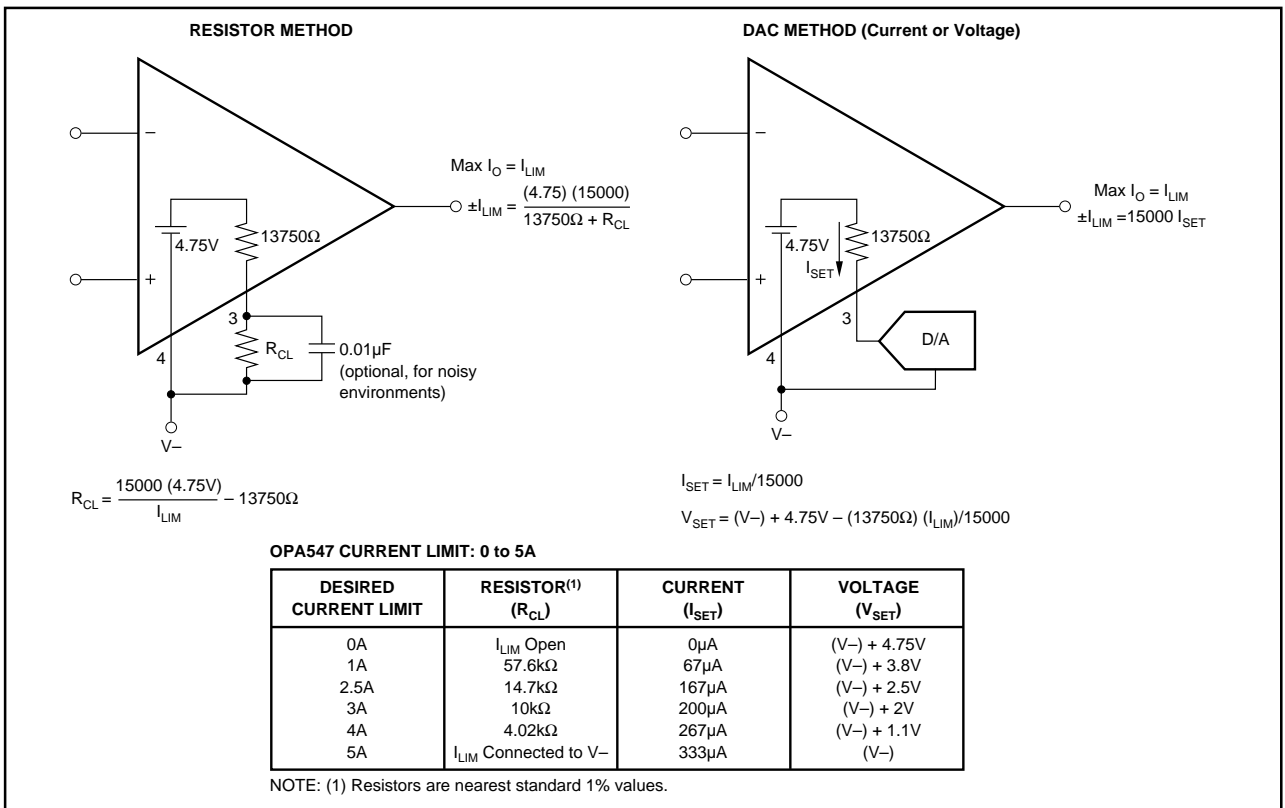

FIGURE 3. Adjustable Current Limit.
Figure 3 shows a simplified schematic of the internal circuitry used to set the current limit. Leaving the ILIM pin open programs the output current to zero, while connecting ILIM directly to V- programs the maximum output current limit, typically 5A.
NOTES: (1) Works well for  $G < 10$ . Input offset causes output current to flow between amplifiers with  $G > 10$ . Gains (resistor ratios) of the two amplifiers should be carefully matched to ensure equal current sharing. (2) As configured ( $I_{LIM}$  connected to  $V_-$ ) output current limit is set to 10A (peak). Each amplifier is limited to 5A (peak). Other current limit values may be obtained, see Figure 3, "Adjustable Current Limit".